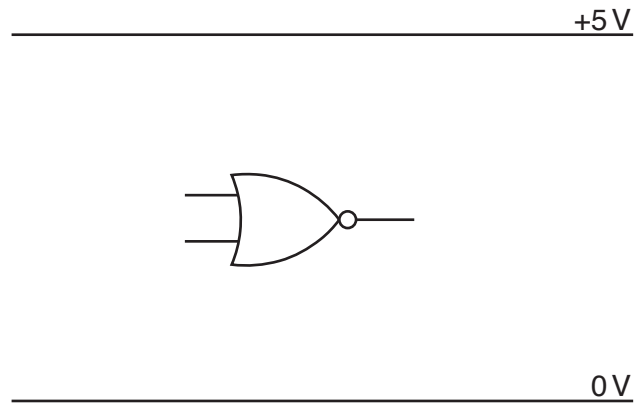

Fig. 5
- (c) Complete Fig. 5 to show how an LED could be connected to indicate the logic level of the logic gate output.